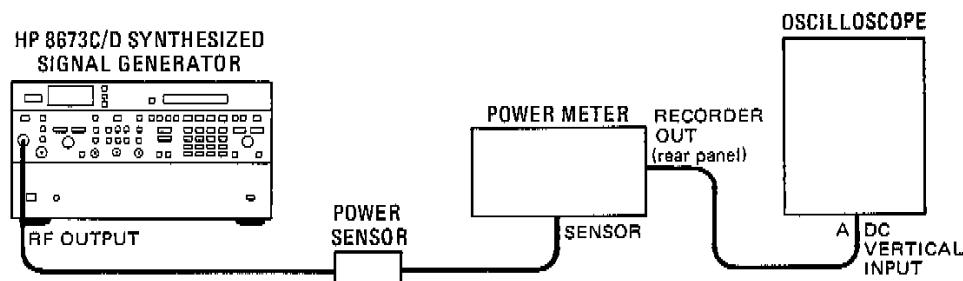

Figure 4-2. High Level Accuracy and Flatness Test Setup
1. Connect equipment as shown in Figure 4-2.